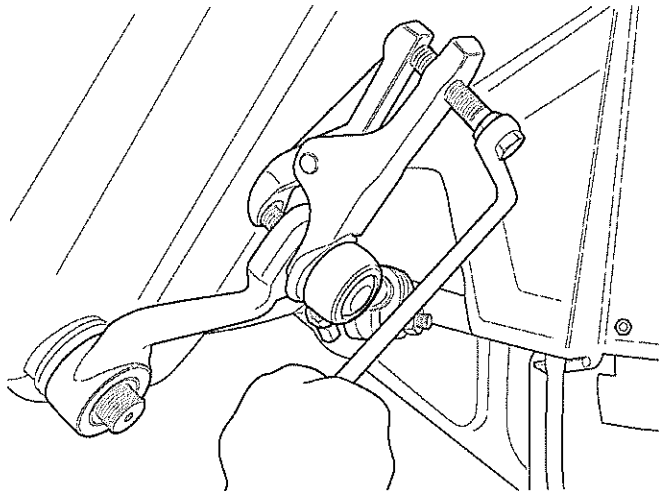

Fig 11 Pressing out drop arm ball joint
- 24.4 Remove split pin and ball joint nut and press off drag link ball joint from steering drop arm (see Fig 11).